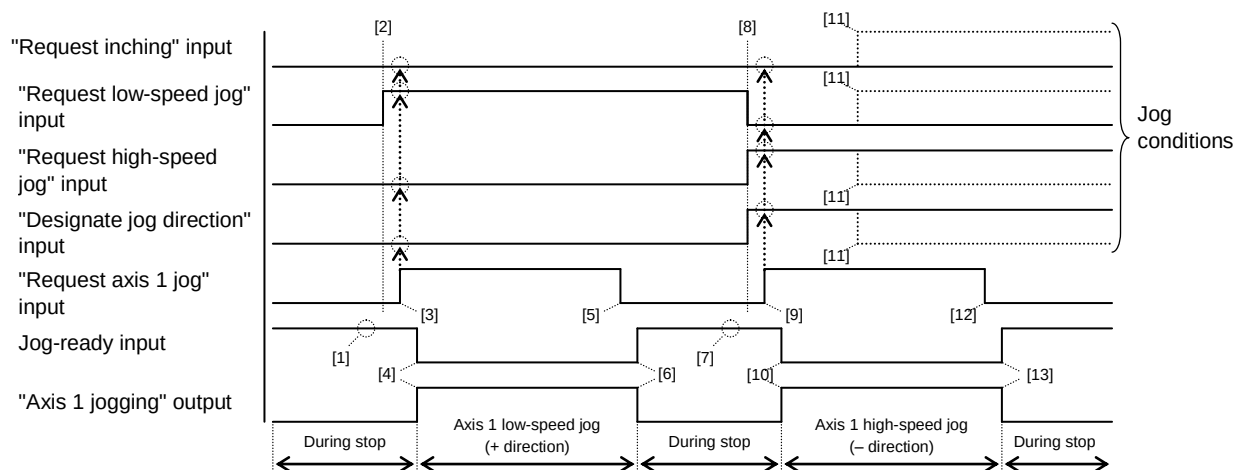

Fig. 12.2.4-1 Example of axis 1 travel
- While the jog conditions (inching, high-speed travel, low-speed travel) and travel direction are specified and the "request jog" input is ON, corresponding axis moves at jogging. (See Fig. 12.2.4–1.)